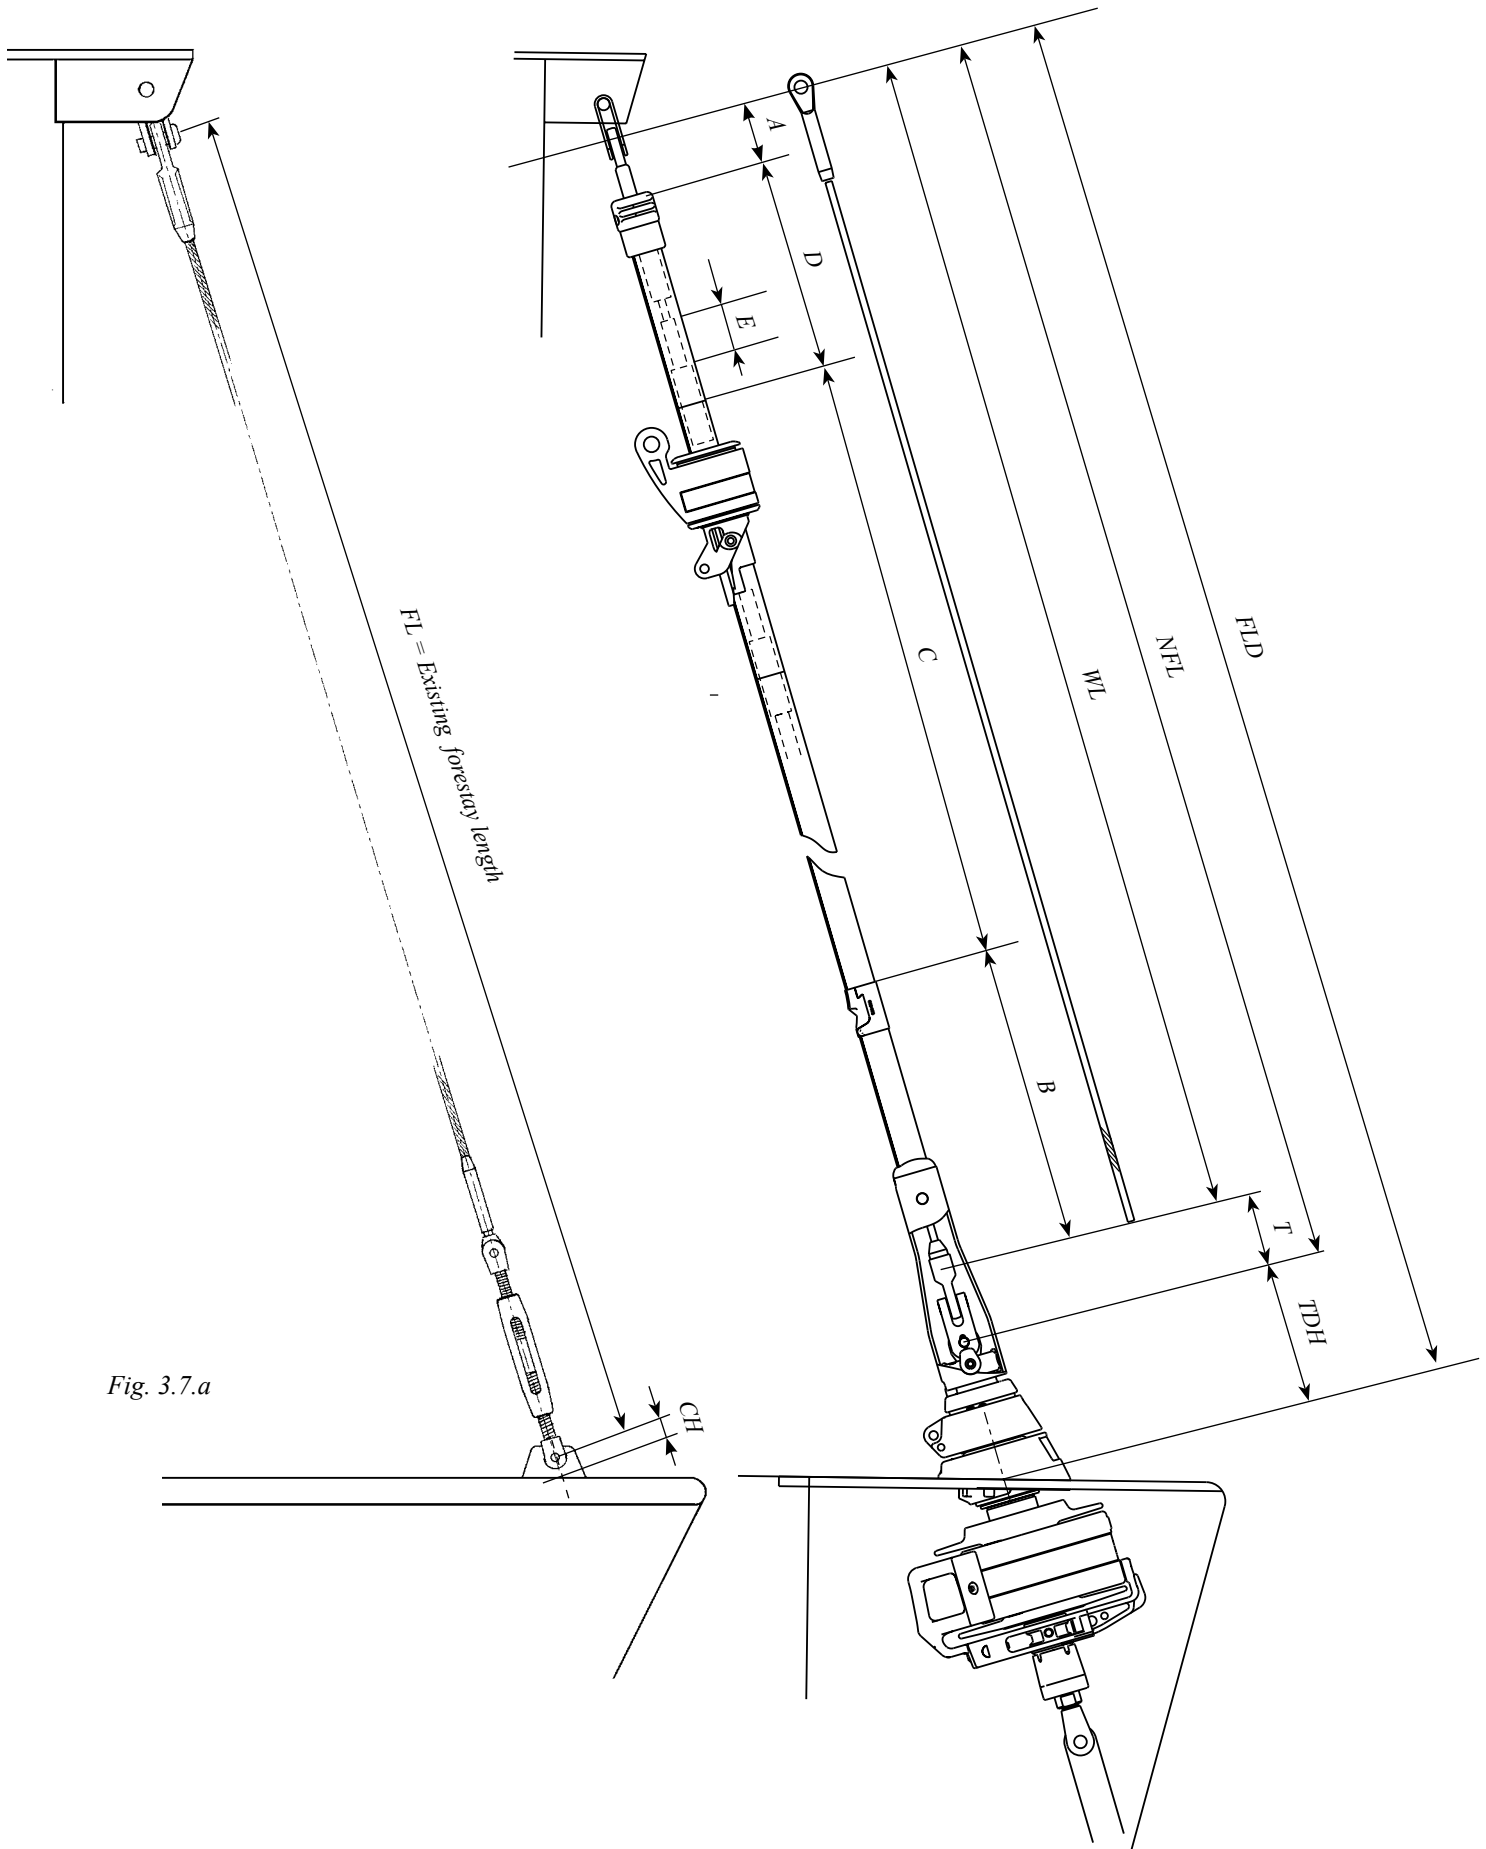

Fig. 3.7.a
<ol style="list-style-type: none"> <li>1. Establish the forestay angle. Use an accurate drawing, which shows details of the area of the deck where the Furlex will be attached (see fig. 3.5.c).</li> <li>2. Transfer this angle to a cardboard jig.</li> <li>3. Press the jig against the underside of the deck and move it longitudinally until the edge representing the forestay line intersects the hole in the forestay fitting in the anchor well. Mark the intersection point on the underside of the deck and drill a 6.5 mm hole through the deck.</li> </ol> <p>Fig. 3.5.c</p>  <p>The diagram shows a side view of a boat's deck. A horizontal line represents the deck surface. A vertical line represents the mast. A line representing the forestay is shown at an angle FA to the mast. Another line representing the chainplate is shown at an angle CSA to the deck. The intersection of these two lines is marked with a circle, indicating the point where a hole should be drilled.</p>	<ol style="list-style-type: none"> <li>1. Make a jig which represents the forestay angle (FA) above deck (See fig. 3.5c)</li> <li>2. Using this jig, mark the angle CSA between the forestay fitting in the anchor well and the forestay intersection point</li> <li>3. If these angles are equal, the existing forestay fitting is correctly located. If the angles are not equal the forestay angle FA must be used also below deck to decide the intersection point. Press the jig against the underside of the deck and move it longitudinally until the edge representing the forestay line intersects the hole in the forestay fitting in the anchor well. Mark the intersection point in the for-and aft direction accurately on the underside of the deck and drill a 6.5 mm hole through the deck.</li> <li>4. Remove the forestay. The recommended procedure is to firstly slacken the backstay. Pull the masthead forward using the genoa halyard. Secure the halyard using a “D”-shackle or tie to a strong deck fitting. For safety reasons do not use the halyard snap shackle. NOTE. If the forestay is to be used to decide the forestay length FLD, the setting of any rigging screw must not be changed</li> <li>5. Remove the forestay. Measure the distance between deck level and the chainplate pin hole (see fig. 3.7.a) and enter the figure in table 3.6.1.</li> <li>6. Remove the forestay fitting from the deck.</li> <li>7. Mark the intersection point on the underside of the deck by drawing a line along the longitudinal centreline of the boat and using earlier marking as per item 3.</li> <li>8. Drill a 6.5 mm hole at the intersection point.</li> </ol>